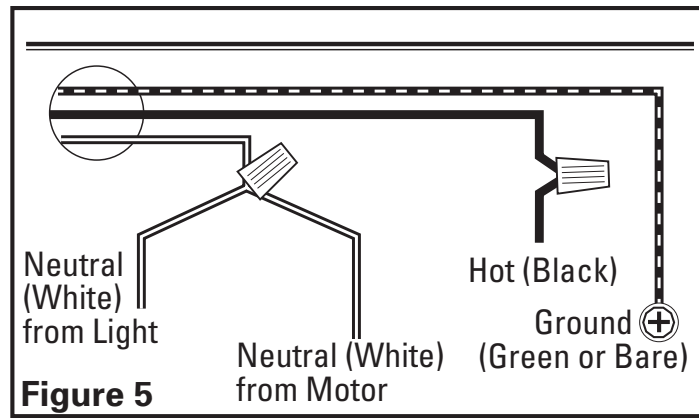

Figure 5
1. Connect the 2 loose White wires from the range hood to the White wire from the supply, and the loose Black wire from the range hood to the Black wire of the supply. Connect the ground wire (green or bare) from the supply to the green ground screw of the hood. Use approved methods for all connections (Figure 5).